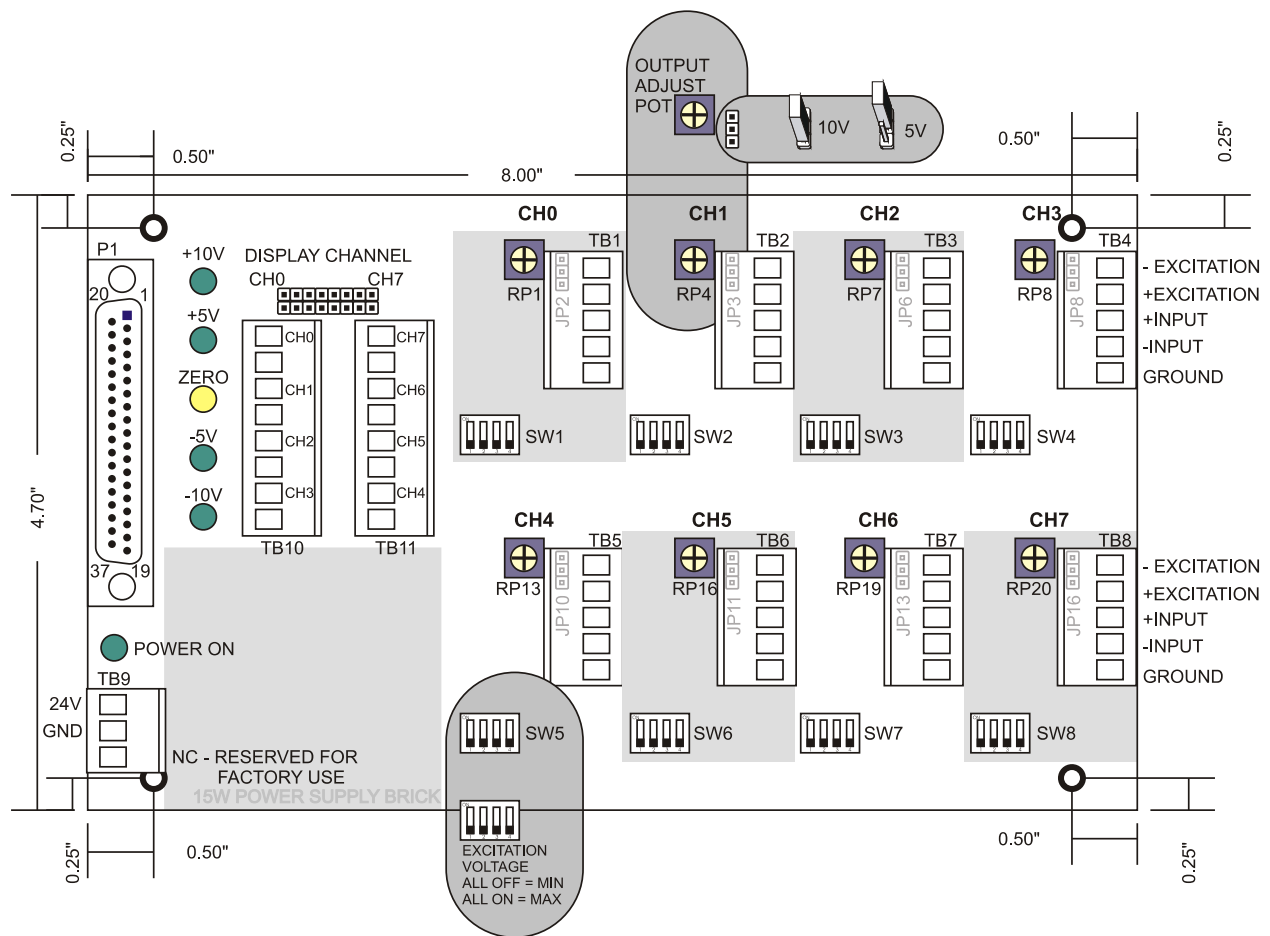

Figure 2-1: Option Selection Map
- Figure 2-1: Option Selection Map 9